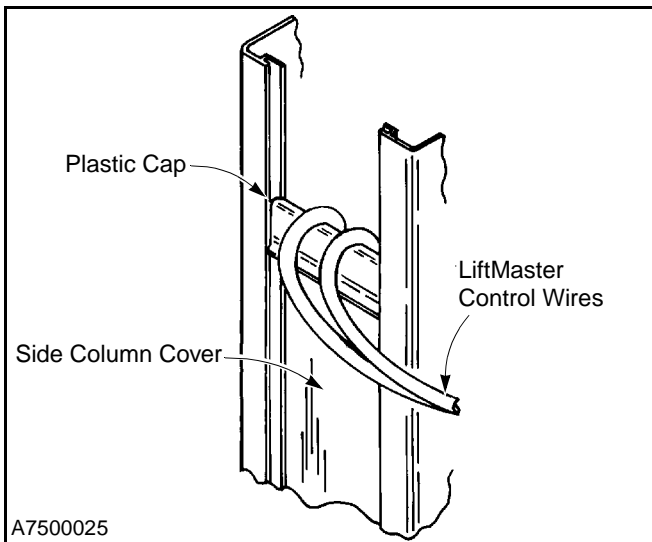

Figure 29
3. Pass the LiftMaster door operator control wires down through the side column. (See Figure 29.)